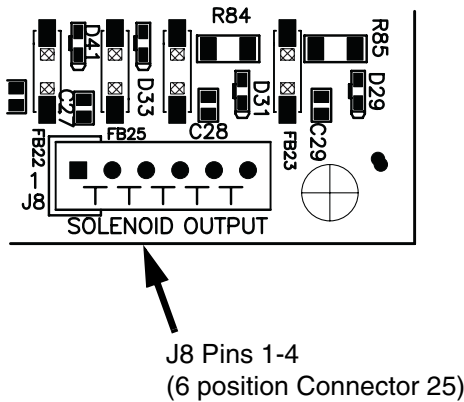

FIG. 10: RoboMix Control Board J8 Connections
3. Connect the 6 position connector (25) to J8 on the control board. See FIG. 10